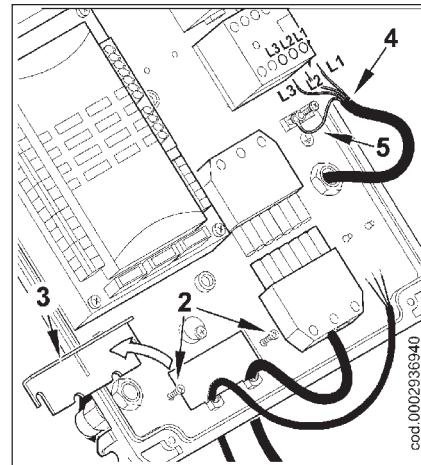

Fig. 2
- Loosen the screws (2) and after removing the cable clamp plate (3), make the 7 pole plug and modulation control cable come through the hole (fig. 2). Connect the power supply cables (4) to the radio control switch, fix the earth cable (5) and tighten the cable gland.
**When closing the burner, gently pull towards the electrical panel, putting the two ignition and ionisation cables slightly in tension, then arrange them into their housings (7) as in figure 2. This will ensure that the two cables do not get damaged by the fan during burner operation.**